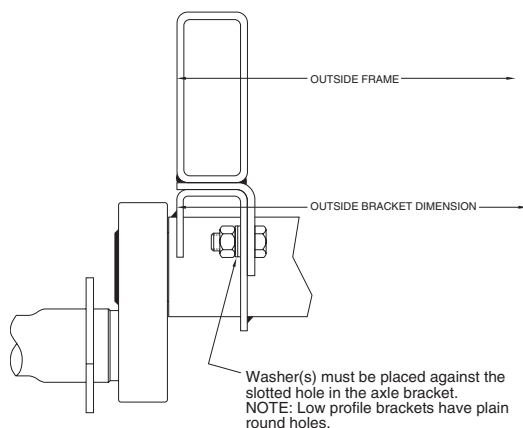

Figure 1
a. For structural tube type frame rails, refer to figure 1 for the recommended attachment.